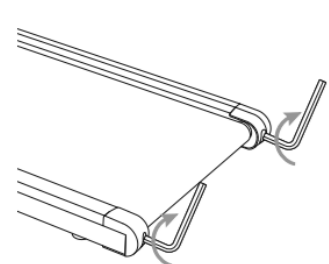

Figure 3
- Turn both screws clockwise by 1/2 turn (see Figure 3).